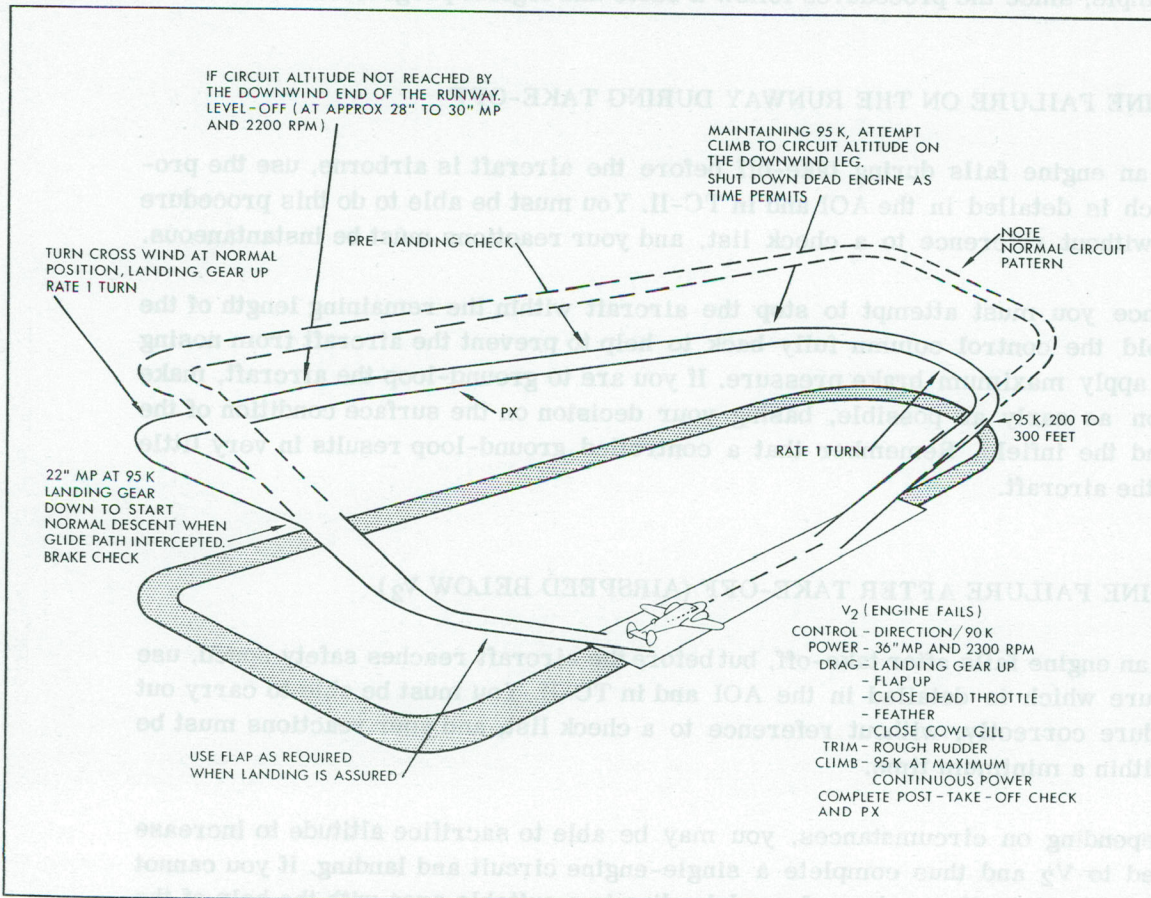

Figure 1. The Single-engine Circuit
- (1) If, after take-off an engine fails after the aircraft reaches safety speed, use the procedure which is detailed in the AOI and in TC-11. You must be able to carry out this procedure correctly, without reference to a check list, and your reactions must be accurate and effective.
- (2) During this emergency you may be inclined to hurry the procedure. Remember that it is better to do this check smoothly and accurately than to hurry and risk missing some item.
- (3) After completing the control, power, and drag check, conserve the good engine by reducing power to "MAXIMUM CONTINUOUS" as soon as the airspeed reaches 95K with the aircraft "clean" and climbing (Figure 1). Maintain the engine temperatures and pressures within their operating ranges, and do the Post-Take-off Check. Inform the controlling agency of the situation by declaring an emergency, and thus obtain priority in the circuit which will enable you to concentrate on flying. Do not be in a hurry to shut down the failed engine, since this can be done with safety whenever time permits.
- (4) Turn onto the downwind leg as soon as the aircraft is at a safe altitude (200 to